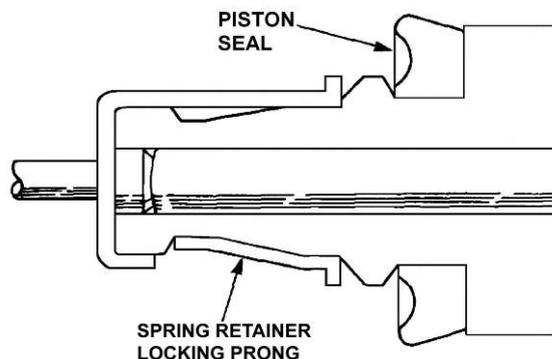

Figure 157 Installation of the Piston Seal
- h. Insert the piston into the spring retainer and engage the locking prong (Figure 157).